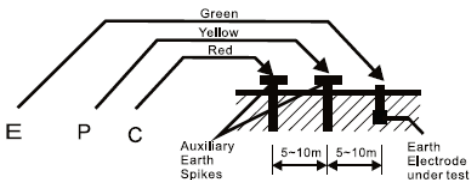

Fig.1
- (1) Connect green, yellow and red test leads to instrument terminals E, P and C with auxiliary earth spikes P1, C1 stuck into earth "IN A STRAIGHT LINE ".(Fig.1)
- (2) Rotary the function switch to suitable range then press the push button to test and take the reading.
* Follow the proper connection such as Fig1.